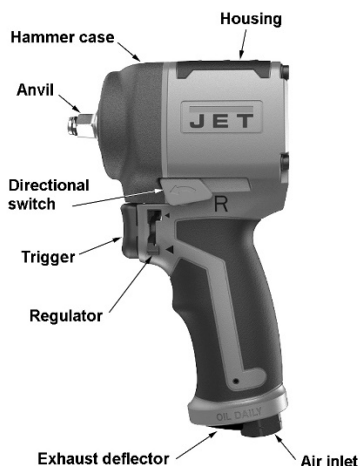

Figure 1
1. Remove protective cap from air inlet (Figure 1). If an in-line oiler is not being used, add 4 or 5 drops of air tool oil (not included) into the air inlet.
2. Place 4 or 5 drops of air tool oil into air inlet (Figure 1).